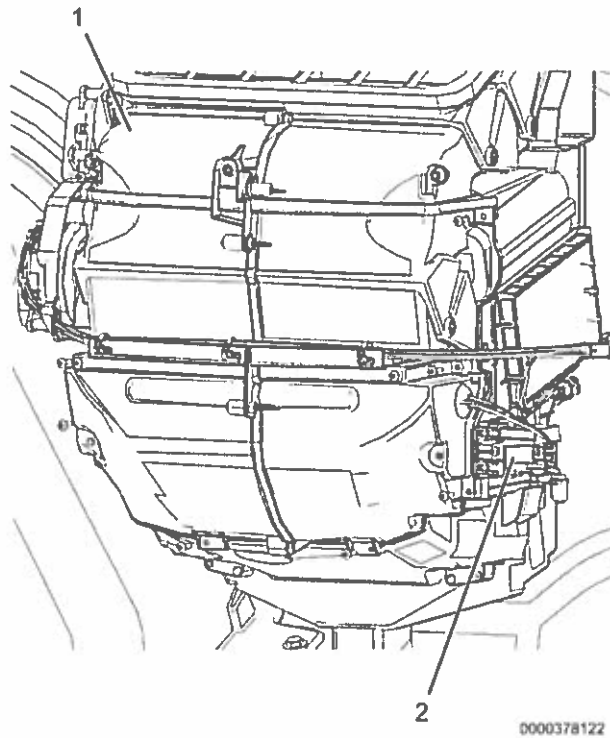

Figure 2. Interior HVAC Module.
10. Access interior HVAC module (Figure 2, Item 1) and locate LPM (Figure 2, Item 2).